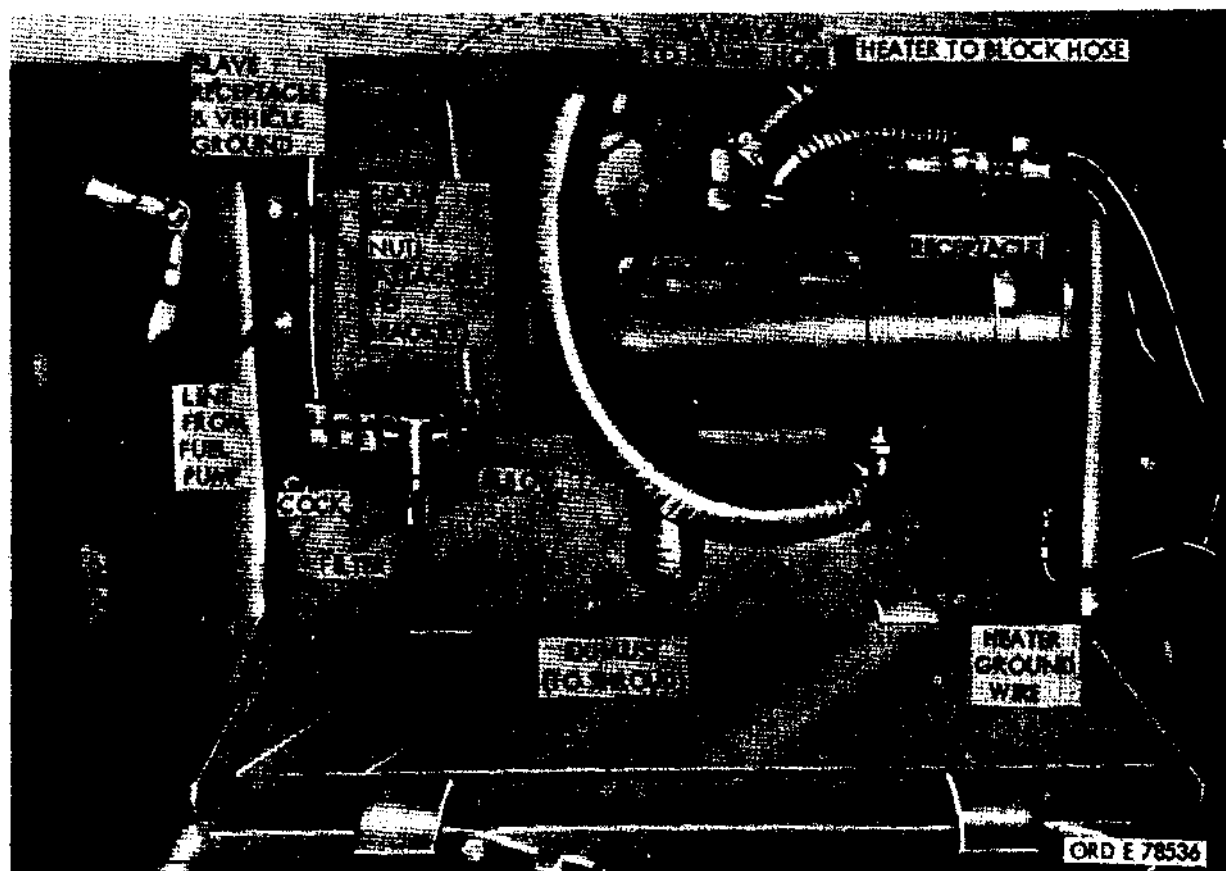

Figure 710. Power plant heater installed.
- (4) Route negative (short) receptacle cable through other hole in floor and attach to new ground post (fig. 710) located on running board bracket support,
- (1) Install elbow MS 96906-39202-04 in outlet side of filter MS 96906-51085-1 with opening directed up.
- (2) Install cock 543852 in inlet side of filter with control handle located on top.
- (3) Install elbow MS 96906-39202-4 in cock (2) above, with outlet directed up.
- (4) Install filter with attached cocks and elbows on lower left side of plate 10896366 (fig. 710) using two 10-32X1-½ screws MS 96906-35207-269, and washers MS 96906-35335-18.
- (5) Install tube 8689207 (20 in. long) from filter outlet to heater control valve (fig. 710).
- (10) Fasten tubing to bracket 10931984 (fig. 710) with clamp MS 96906-213333-99, ¼-28x9/16 screw MS 96906-35292-4 and nut MS 96906-51922-5.
- (11) Install shield 10932116 (part of personnel heater kit) over fuel pump and secure to tool box with four ¼-28x½ screws MS 96906-35-207-279 and locking nuts MS 96906-51922-5.
- (1) Cut a 1-¾ in. dia. hole in bottom right corner of firewall 5 in. from cab sidewall and 3-½ inches above junction of floor panel and firewall.
- (2) Install heater end of harness 10923528 in heater receptacle. Attach ground lead as indicated in figure 710.
- (7) Secure loose wires to existing harnesses where possible using suitable tape (fig. 710).